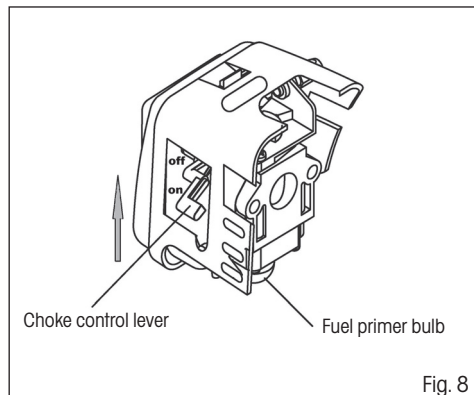

Fig. 8
2. Repeatedly push down the fuel primer bulb (5 to 10 presses), until the fuel gets to the carburettor. (see fig. 8)
3. Move the choke lever upwards to the "OFF" position (=air supply turned off, i.e. choke turned on). (see fig. 8)